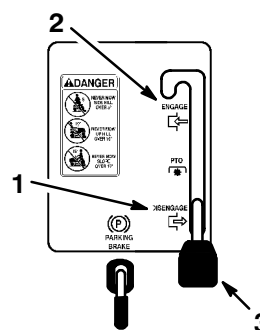

Figure 6
3. Move the blade control (PTO) to “DISENGAGED” (Fig. 6).